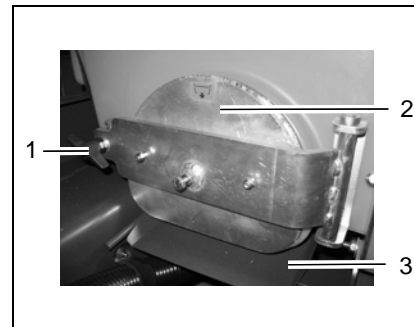
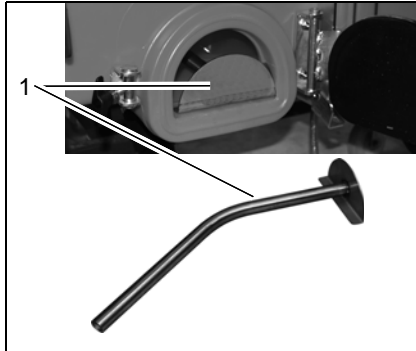

Fig. 30
Fig. 31
4. Pull out the run-off plate (Fig. 30/3)..
5. Release the flap lock: turn the wing nuts (Fig. 30/1) counterclockwise.
6. Open the cleaning flap (Fig. 30/2). The waste water tank is equipped with a deflecting tube (Fig. 31/1). The deflecting tube serves to support the membrane panel.